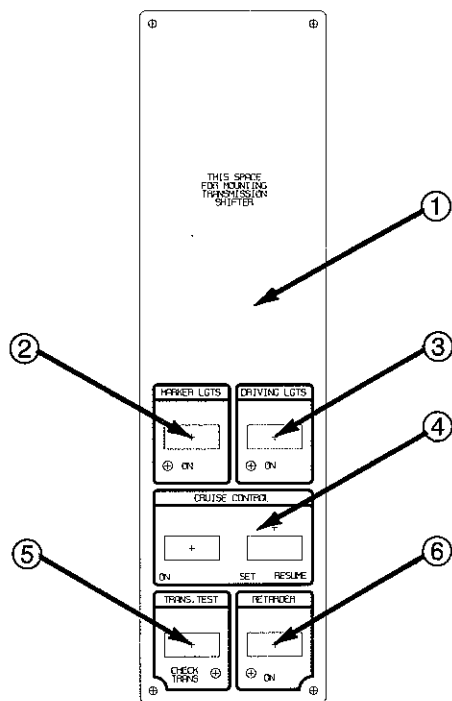

Figure 2-5. Shifter Panel
Shifter Panel (See Fig. 2-5)
① **TRANSMISSION SHIFT SELECTOR** — Figure 2-5 shows the selector for the 8V92 engine. This is the push button shift selector made available with the Allison Transmission Electronic Control (ATEC). With ATEC, shifts are more accurate and positive than those obtainable with conventional hydraulic controls. ATEC makes it possible to precisely match the optimum fuel economy/shift curve relationship. Only four speeds are required with this system. See Diesel Engine/Transmission Operation later in this section for detailed description.